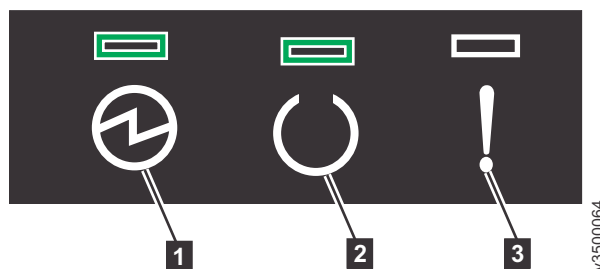

Figure 34. Expansion canister LEDs
2. From the rear of the expansion enclosure, check the LEDs on each expansion canister (see Figure 34).